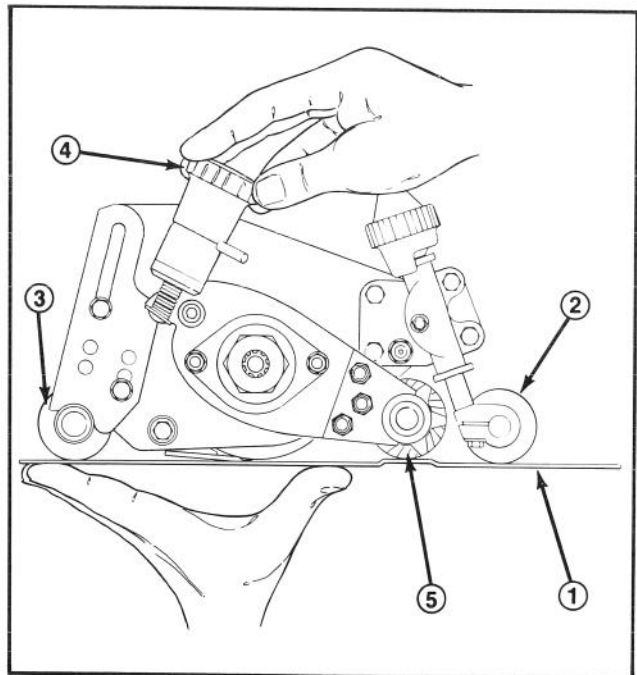

Figure 22
4. With one hand, hold the groomer height/depth gauge, securely against the front and rear rollers on one side of the cutting unit (Fig. 22). With the other hand lift and turn the micro adjustment knob so that the groomer blade just barely contacts the gauge (rotating the groomer blade by hand will help determine if the blades just barely touch the surface of the gauge) (Fig. 22). Each notch on the micro adjustment knob is approximately equally to .007 inch of groomer depth.